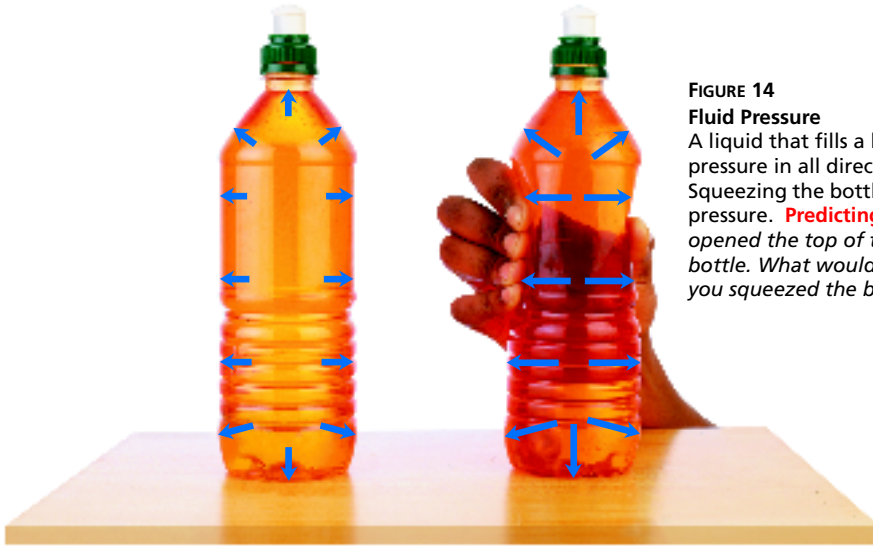

FIGURE 14
**What Is Pascal's Principle?** As you learned in Section 1, fluid exerts pressure on any surface it touches. For example, the water in each bottle shown in Figure 14 exerts pressure on the entire surface of the bottle—up, down, and sideways.
What happens if you squeeze the bottle when its top is closed? The water has nowhere to go, so it presses harder on the inside surface of the bottle. The water pressure increases everywhere in the bottle. This is shown by the increased length of the arrows on the right in Figure 14.